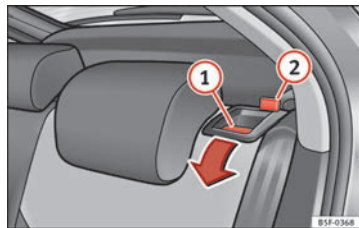

Fig. 92 Backrest release lever.
- Press the release lever ⇒ Fig. 92 ① in the direction of the arrow.
- Move the backrest until it engages properly ⇒ ⚠. The red marking on the tab ⇒ Fig. 92 ② should no longer be visible when the backrest is properly secured.